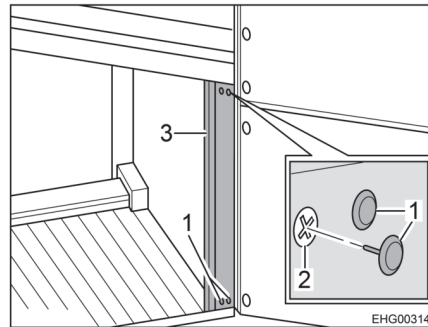

Fig. 88 Panel at the rear of the vehicle
To access the rear right-hand vehicle lamps, first remove the panel (Fig. 88,3).
- Remove four screw covers (Fig. 88,1).
- Unscrew four Phillips screws (Fig. 88,2).
- Remove the panel (Fig. 88,3). You can now access the vehicle lamps.